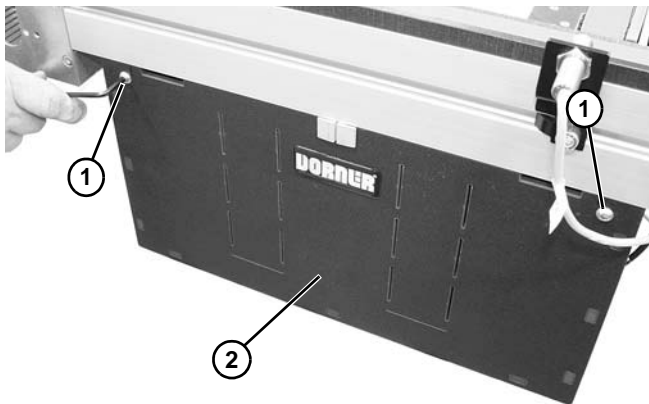

Figure 109
1. If installed, remove button head screws (**Figure 109, item 1**) and guard kit (**Figure 109, item 2**).